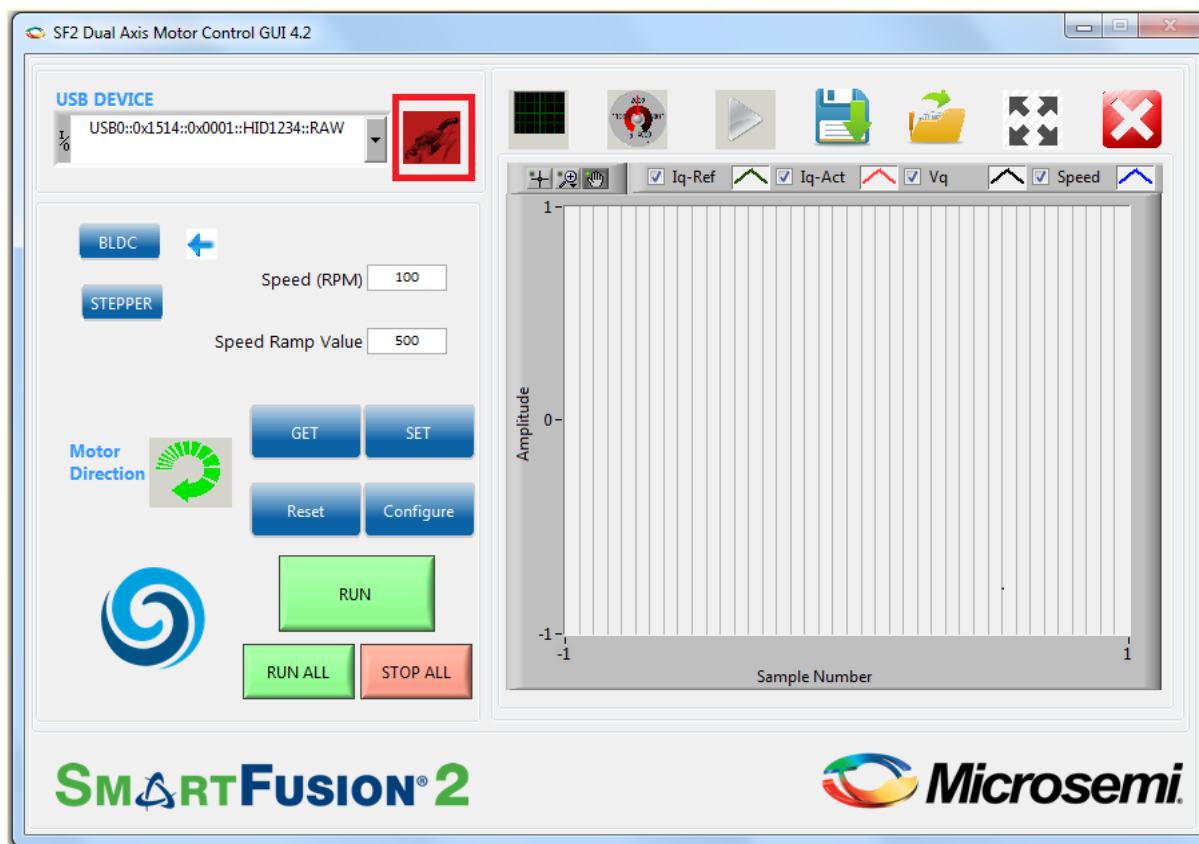

Figure 17 • SmartFusion2 Motor Control GUI - Launch Window
3. Click **Connect** as shown in Figure 17.
On successful connection, the Connect button (highlighted in Figure 17) turns to green.